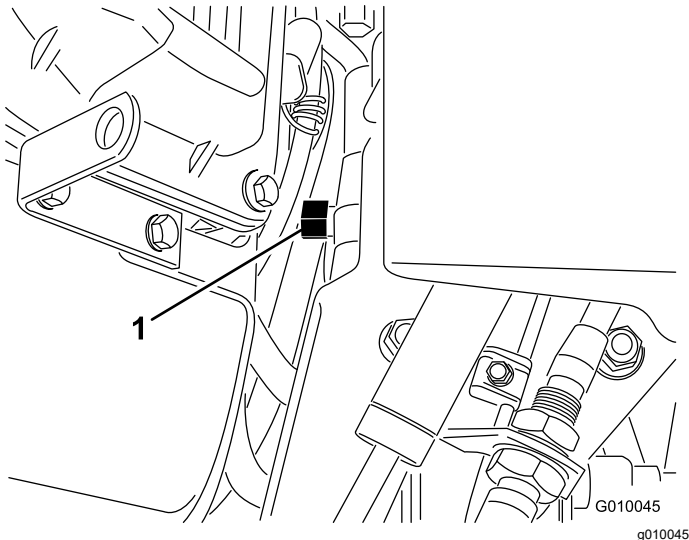

Figure 29
2. Locate the bypass valve between the engine and hydrostatic pump (Figure 29).
3. Using a 5/8 inch wrench, rotate the bypass valve counterclockwise 1 turn. This allows the hydraulic fluid to bypass the pump enabling the wheels to turn (Figure 29).
5. To operate the machine again, rotate the bypass valve clockwise 1 turn (Figure 29).